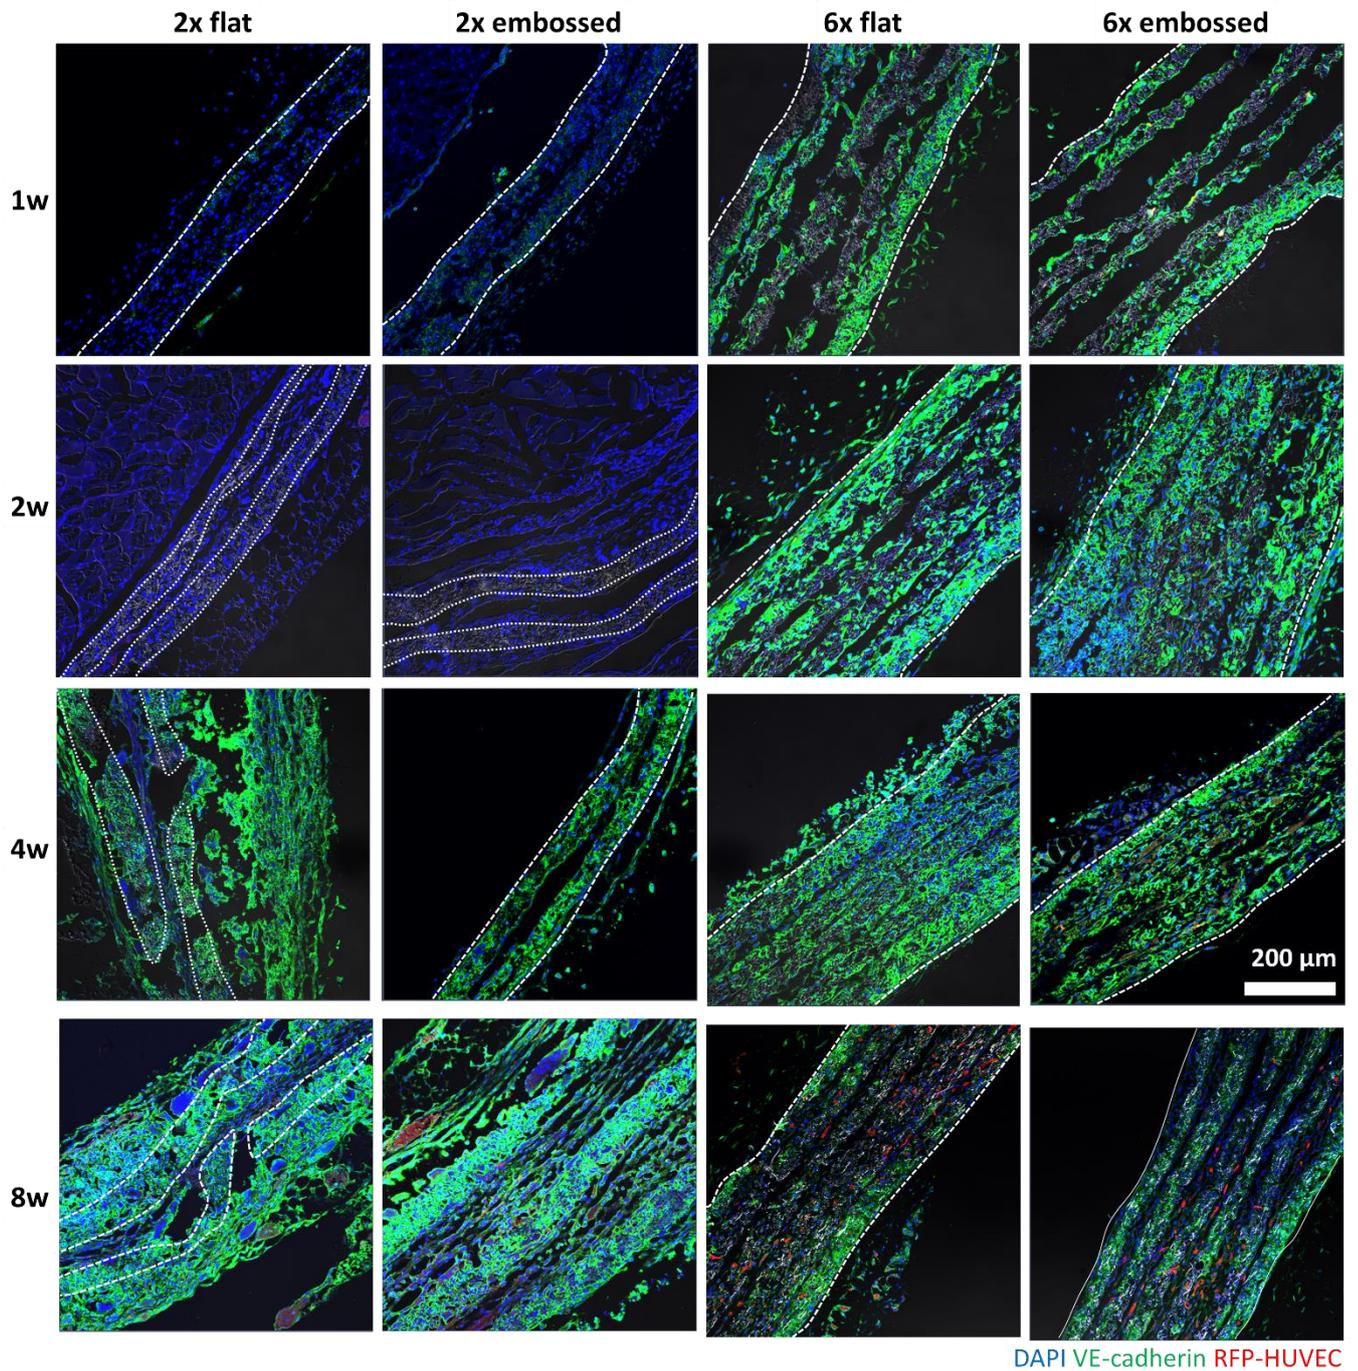

Figure S5: Immunofluorescence images showing differences in CD31 expression in cross-sections of experimental groups. Green: CD31, red: HUVEC, blue: DAPI.
6. Figure S5: Immunofluorescence images showing differences in CD31 expression in cross-sections of experimental groups. Green: CD31, red: HUVEC, blue: DAPI.